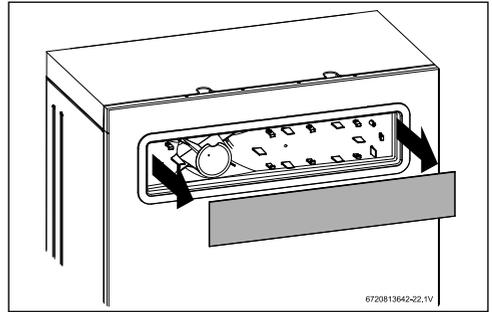

Fig. 46 Remove protection
- ▶ Remove the protection from the front cover, see fig. 46.